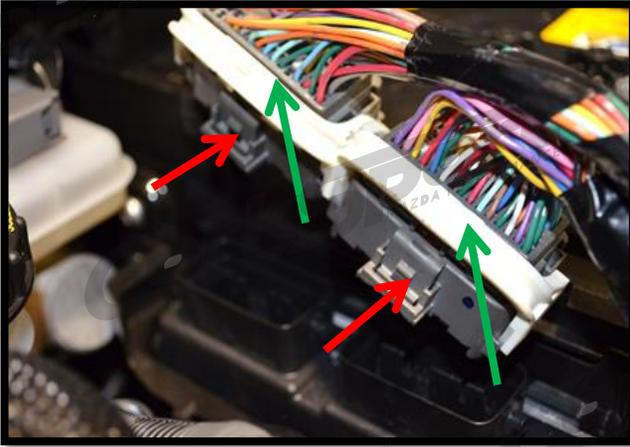

Figure 1d
- h) Disconnect the ECU plugs. (Figure 1d)
- h) **Disconnect the ECU plugs** by pushing on the tab (Red Arrow in Figure 1d) and pulling the white lock upward simultaneously. (Green Arrow in Figure 1d)